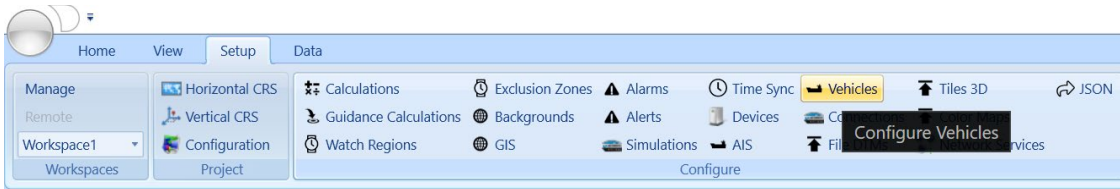

FIGURE 7-1 VEHICLES - SETUP RIBBON - VEHICLES BUTTON
Vehicles are managed via the Configure Vehicles dialog, opened by clicking on the Vehicles button in the Configure section in the Setup ribbon (see Figure 7-1) or Explorer (see Figure 7-3)
1. Access the **Configure Vehicles** view via the Setup ribbon or Explorer view (see Figure 7-1 and Figure 7-3)